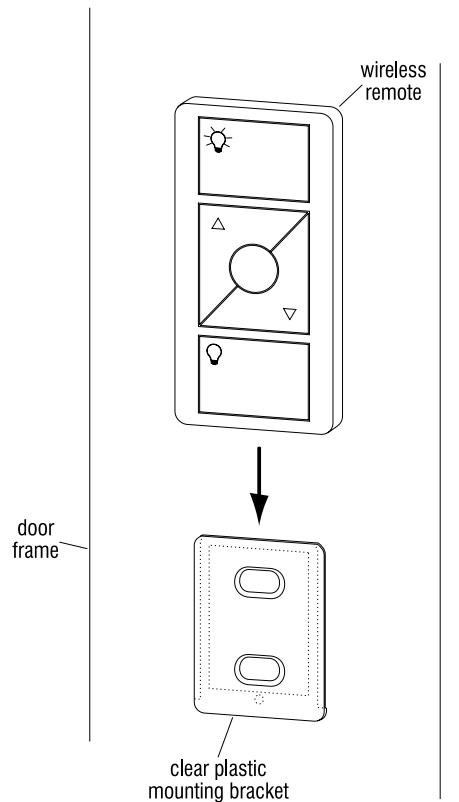

Figure 4
4. The wireless remote utilizes a clear plastic mounting bracket which must be secured to the door frame post at the catch-side, inside the room, at between 42" & 44" from the floor. Position the mounting bracket properly, so the wireless remote can slide onto it from above, then remove the backing from the white sticky pad at the back of the mounting bracket and press the mounting bracket firmly onto the door post in a square and level manner. If additional holding power is desired, use two customer-supplied #6 flat head (counter-sunk) screws, then pre-drill to secure the mounting bracket to the door post. Position the wireless remote above the bracket and slide it down to nest it firmly onto the installed mounting bracket (Figure 4).